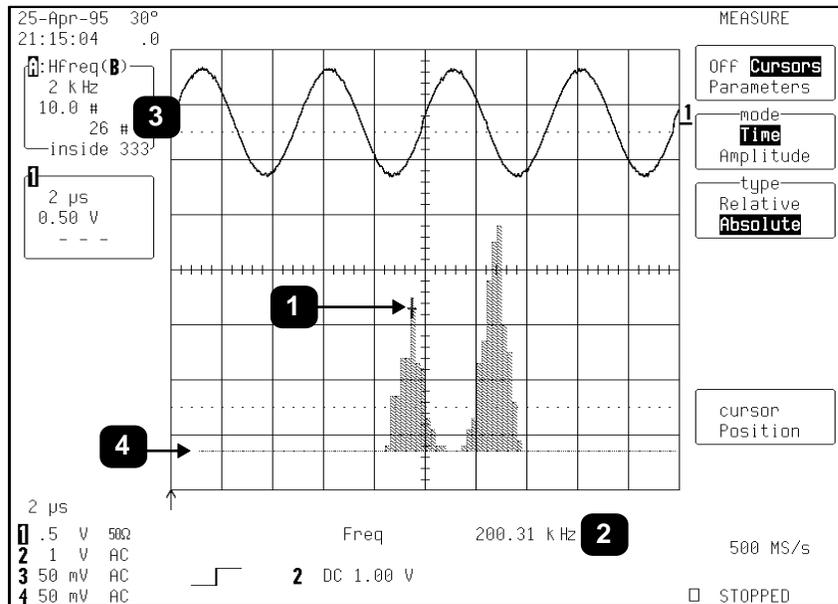

Figure 14-10.
Cursors are useful for determining the value and population of selected bins. Figure 14-10 shows an absolute time cursor (Item 1) positioned on a selected histogram bin. The value of the bin (2) and the population of the bin (4) are also shown.